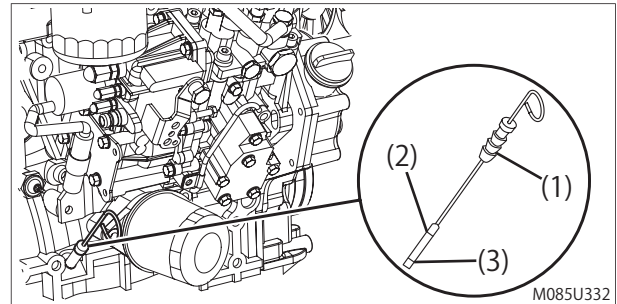

fig. 7-3
- (1) Make sure the machine is level.
- (2) Make sure the engine and all systems are turned off and the emergency stop buttons are depressed.
- (3) Remove dipstick (fig. 7-3, 1) and wipe with clean cloth.
- (4) Fully reinsert dipstick.
- (5) Remove dipstick. The oil level should be between upper (fig. 7-3, 2) and lower (fig. 7-3, 3) lines on the dipstick.
- (6) Fully reinsert dipstick.
- (7) Add the engine oil if necessary.